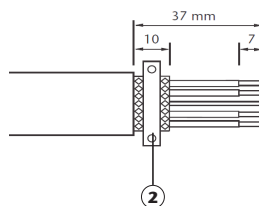

Fig. 4
1. Strip the end of the CAN Bus cable according to the scheme shown in the figure 4.